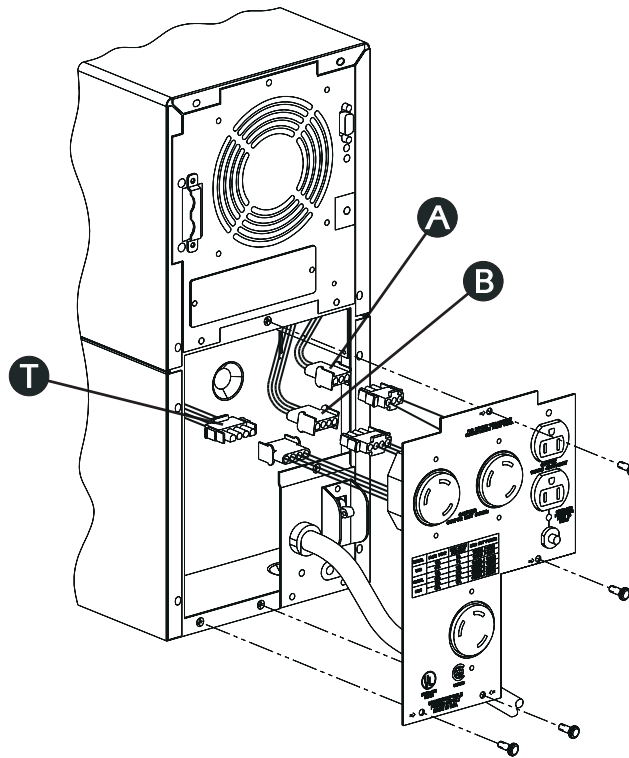

Figure 5-9 *Removal of Output Panel (208V Tower)*
4. *Unscrew the output panel at the rear of the UPS. Remove only the 4 screws indicated in Figure 5-9. Save these screws. They will be used to install the replacement panels.*
5. *Plug connector #3 to the 3-pin output connector inside the UPS. (Connector **A** in Figure 5-9)*
6. *Plug connector #2 to the 4-pin output connector inside the UPS. (Connector **B** in Figure 5-9)*
- a. *Plug connector #1 into the 4-pin transformer connector inside the UPS. (Connector **T** in Figure 5-9)*